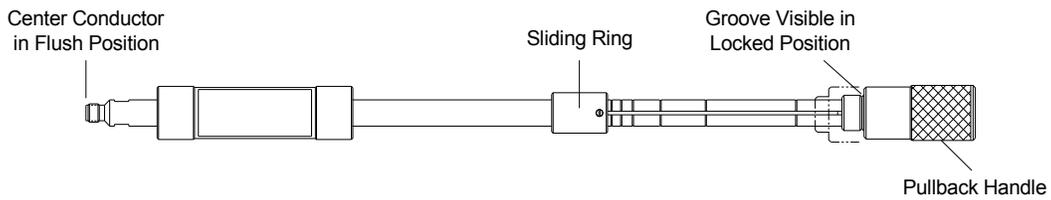

Figure 2. Sliding Termination in Locked Position
| Figure 2. Sliding Termination in Locked Position..... | 4 |
- Refer to **Figures 2 and 3** which shows the sliding termination in its locked and unlocked position respectively.